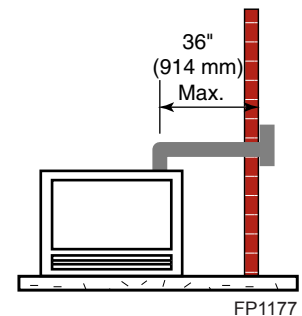

*Figure 26 -
- If a 90° elbow is fitted directly on the top of the fireplace, the maximum horizontal vent run before the termination or a vertical rise is 36" (914 mm). *Figure 26*